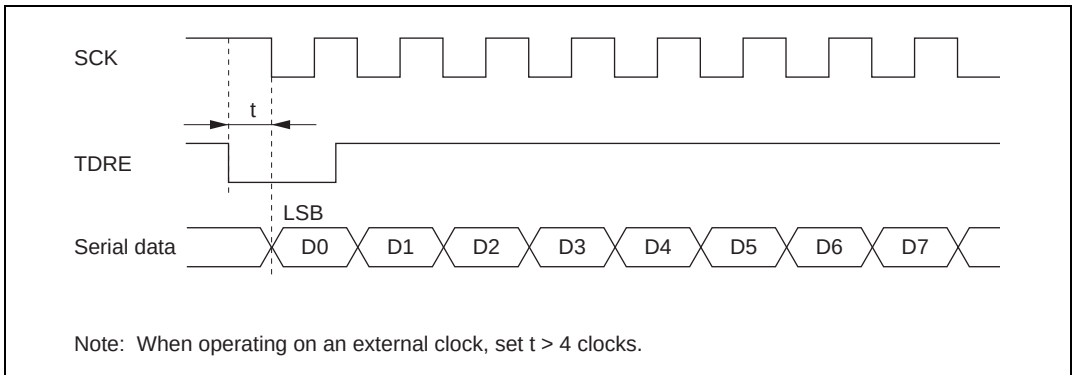

**Figure 12.22 Example of Synchronous Transmission Using DTC**
- When an external clock source is used as the serial clock, the transmit clock should not be input until at least 5  $\phi$  clock cycles after TDR is updated by the DTC. Misoperation may occur if the transmit clock is input within 4  $\phi$  clocks after TDR is updated. (Figure 12.22)